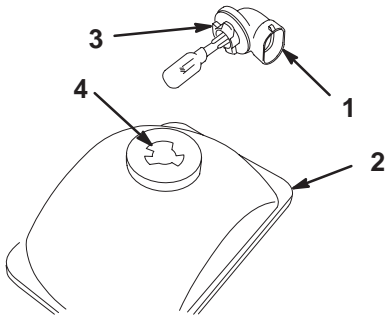

Figure 34
2. Reach beneath the dash and rotate the lamp assembly 1/4 turn counterclockwise (Fig. 34). Pull the lamp assembly out of the reflector.
5. Reach beneath the dash and align the three tabs on the lamp assembly with the slots in the reflector (Fig. 34). Insert the lamp assembly into the reflector and rotate it 1/4 turn clockwise until it stops.